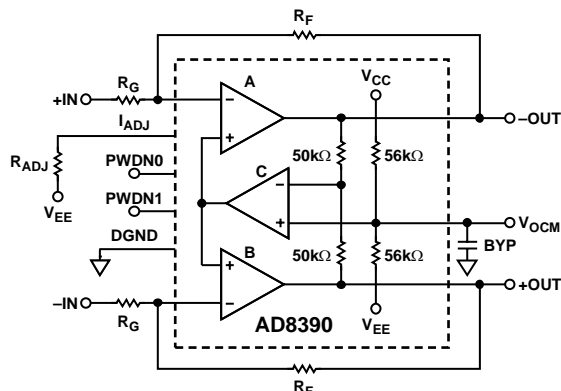

Figure 22. Functional Block Diagram
The AD8390 is a true differential operational amplifier with common-mode feedback. The AD8390 is functionally equivalent to three op amps, as shown in Figure 22. Amplifiers A and B act like a standard dual op amp in an inverting configuration that requires four resistors to set the desired gain.
The third amplifier (C) maintains the common-mode voltage (V_{OCM}) at the output of the AD8390. V_{OCM} is internally generated, as shown in Figure 22. The common-mode feedback amplifier (C) drives the noninverting terminals of A and B such that the difference between the output common-mode voltage and V_{OCM} is always zero. This functionality forces the outputs to sit at midsupply, which results in differential outputs of identical amplitude and 180 degrees out of phase. The user also has the option to externally drive the V_{OCM} pin as an input to set the dc output common-mode voltage. For details, see the Setting the Output Common-Mode Voltage section.